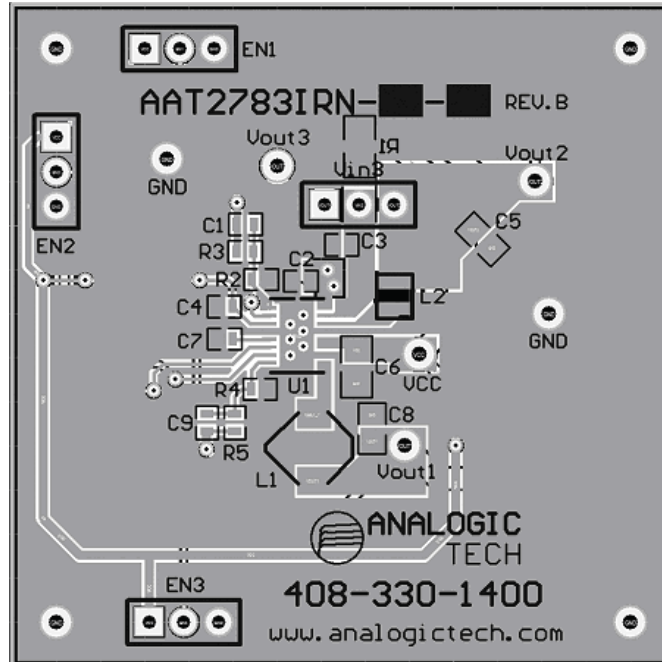

Figure 2: AAT2783 Evaluation Board Component Side Layout.
The term  $\frac{V_O}{V_{IN}} \cdot \left(1 - \frac{V_O}{V_{IN}}\right)$  appears in both the input voltage ripple and input capacitor RMS current equations and is a maximum when  $V_O$  is twice  $V_{IN}$ . This is why the input voltage ripple and the input capacitor RMS current ripple are a maximum at 50% duty cycle. The input capacitor provides a low impedance loop for the edges of pulsed current drawn by the AAT2783. Low ESR/ESL X7R and X5R ceramic capacitors are ideal for this function. To minimize stray inductance, the capacitor should be placed as closely as possible to the IC. This keeps the high frequency content of the input current localized, minimizing EMI and input voltage ripple. The proper placement of the input capacitor (C1) can be seen in the evaluation board layout in the Layout section of this datasheet (see Figure 2). A laboratory test set-up typically consists of two long wires running from the bench power supply to the evaluation board input voltage pins. The inductance of these wires, along with the low-ESR ceramic input capacitor, can create a high Q network that may affect converter performance. This problem often becomes apparent in the form of excessive ringing in the output voltage during load transients. Errors in the loop phase and gain measurements can also result. Since the inductance of a short PCB trace feeding the input voltage is significantly lower than the power leads from the bench power supply, most applications do not exhibit this problem. In applications where the input power source lead inductance cannot be reduced to a level that does
The suggested PCB layout for the AAT2783 is shown in Figures 2 and 3. The following guidelines should be used to help ensure a proper layout.
1. The power input capacitors (C6) should be connected as closely as possible to VP1 and VP2, The LDO input capacitor (C3) should be close to VIN3 as shown in Figure 2. Due to the pin placement of VP1, VP2 and VIN3 for all converters, proper decoupling is not possible with just one input capacitor.